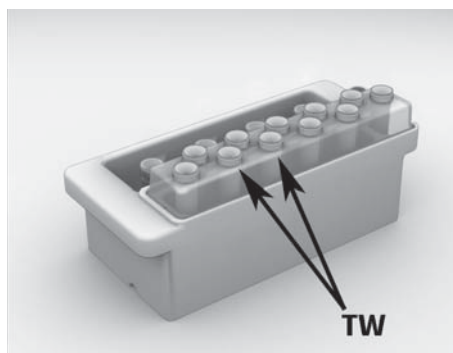

Figure 3-9: All reagents loaded into the Reagents cassette, for a maintenance wash Run
- 2 Empty any waste fluid from the Reagents cassette, and load the two Reagent trays from the GS FLX Maintenance Wash Kit into the Reagents cassette: the 4-tube Maintenance Wash Buffers tray on the left-hand side and the 11-tube Maintenance Wash Reagents tray on the right-hand side, reflecting the "Buffer CB" and "Sequencing Reagents" of the GS FLX (Titanium) Sequencing Kits. The 4-tube "Maintenance Wash Buffers tray" should sit at the bottom of the left-hand side of the Cassette, as shown in Figure 3-9.